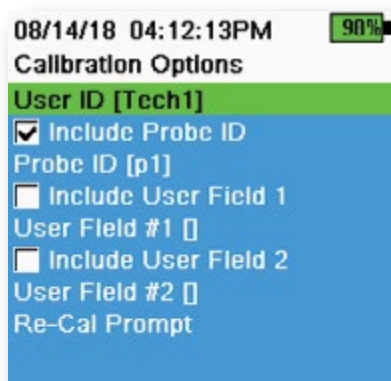

Figure 13 Calibration Options
- Other user-specific identification (User Field #1 and #2) (Figure 13)